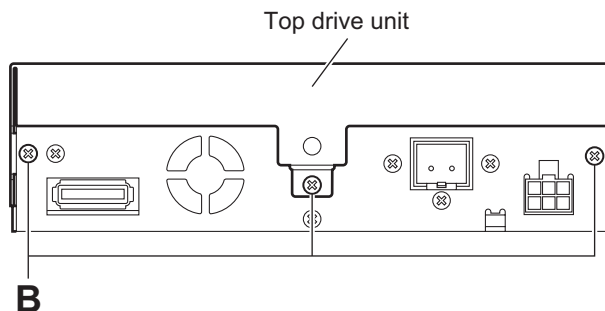

Fig.7
- (2) From the rear side of the main body, remove the three screws **C** attaching the top drive unit. (See Fig.7.)